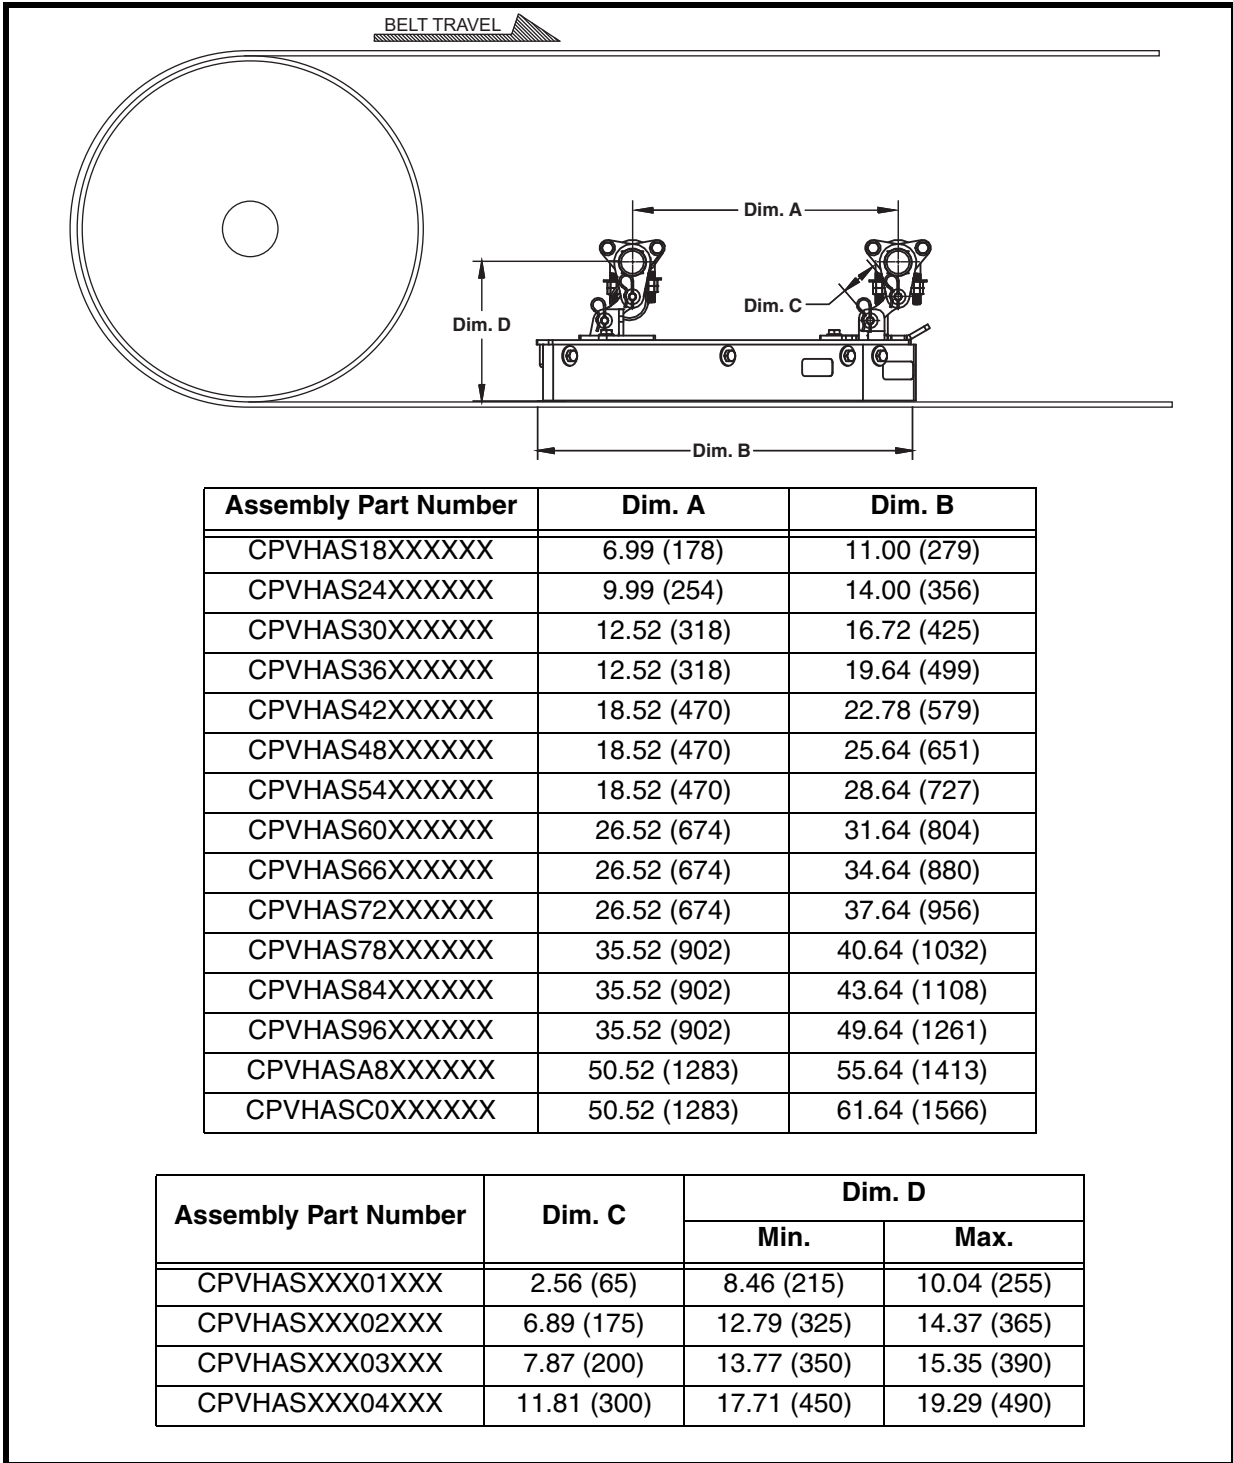

Figure 3. Locating VPlow on Belt
5. Locate the hanger bars according to and Figure 3. Mark the location of the hanger bars on the stringers.